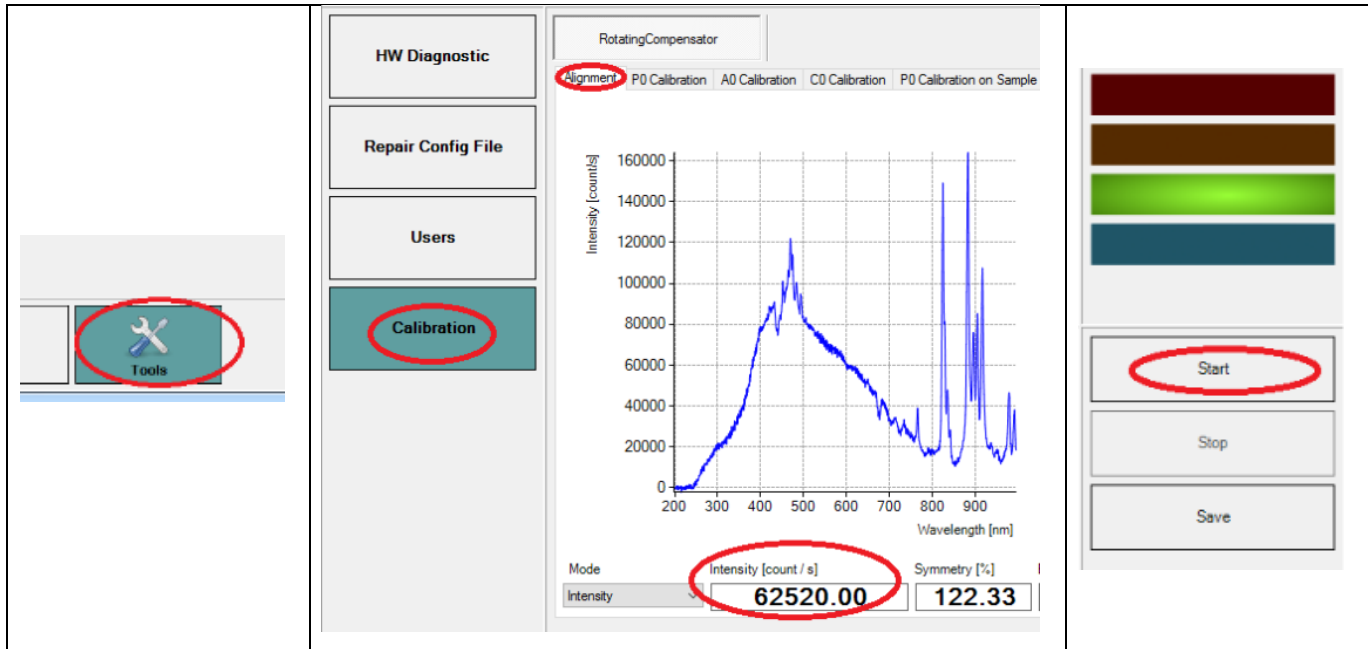

Figure. 18
- Go the “Tools” menu (Figure. 18)